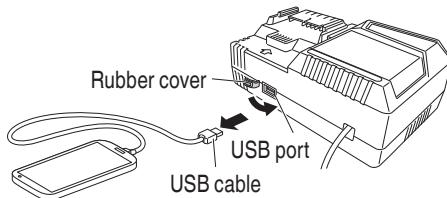

Fig. 13
- (3) When charging is completed
- Unplug the power cord from the electrical outlet. (Fig. 13)